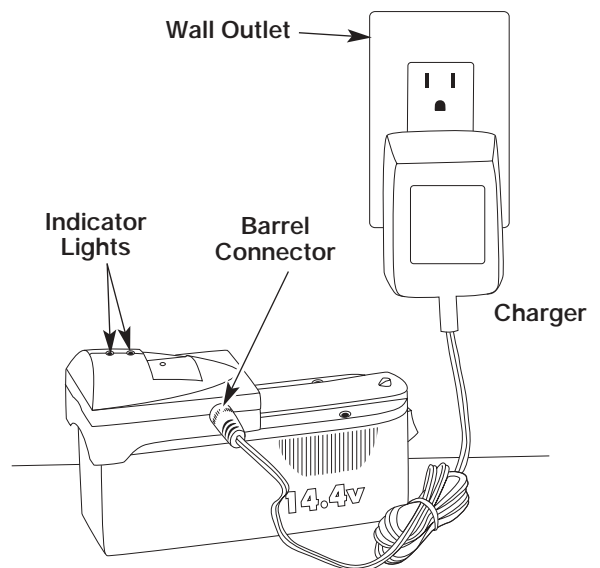

Fig. 3
2. Plug the 14.4V charger into the wall outlet and its barrel connector into the battery charger (Fig. 3). Make sure the wall outlet is normal house voltage, 120 volts, 60 Hz, AC only.
- After charging, disconnect the 14.4V charger from the wall outlet and remove the battery from the charging stand (Fig. 3).